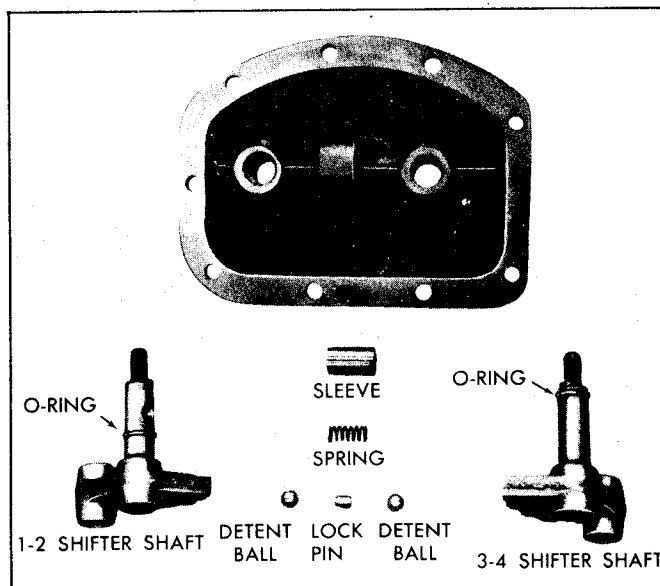

Fig. 7B-18K--Shift Cover Assembly
1. Place a small punch into hole in extension's reverse idler shaft boss and drive the welch plug and pin into the shaft (Fig. 7B-17K) until the shaft can be pulled from rear extension.